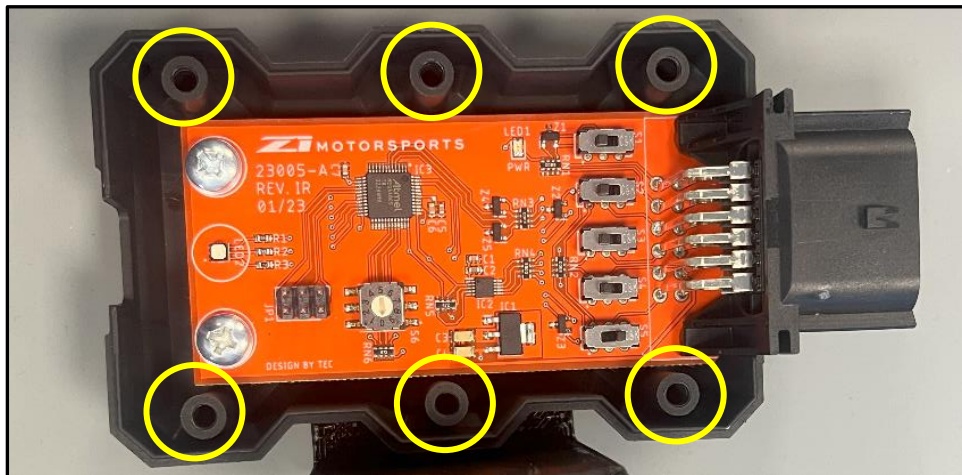

Figure 2
5. Locate the DISCO Box. Unscrew the (6) six philips head screws that are partially threaded in holding the DISCO box enclosure together. *Figure 2*.